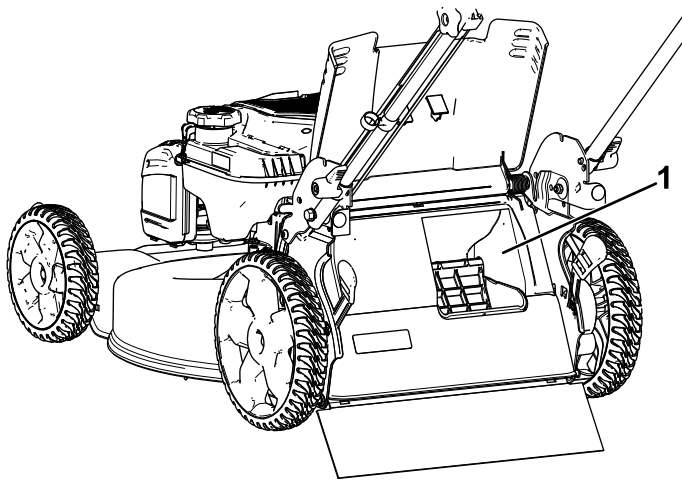

Figure 17
**Important:** For proper operation, shut off the engine, wait for all moving parts to stop, and then remove any grass clippings and debris from the bag-on-demand door and the surrounding opening (Figure 17) before you